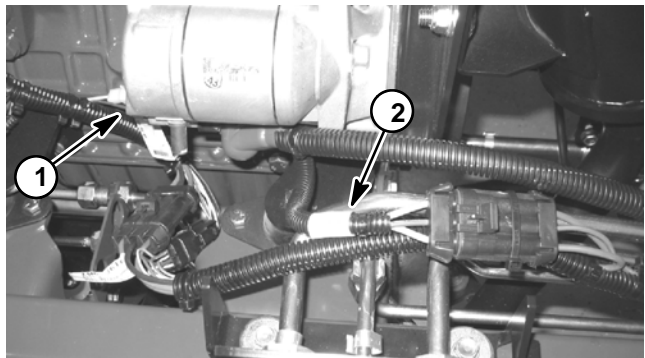

Figure 47
The Reelmaster uses three (3) fusible links for circuit protection. These fusible links are located in a harness that connects the starter B+ terminal to the main wire harness (Fig. 47). If any of these links should fail, current to the protected circuit will cease. Refer to wire harness drawings in Chapter 9 – Electrical Diagrams for additional fusible link information.